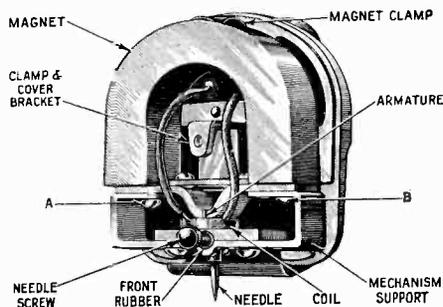

Figure 15—Pickup Nomenclature
In order to replace a defective coil or the hardened pivot rubbers (see Figure 15), it is necessary to proceed as follows:
- (d) Remove screws A and B, Figure 15, and then remove the mechanism assembly from the pole pieces.
the armature centered properly. The adjustment is made by loosening screws A and B (Figure 15), and sliding the mechanism slightly in relation to the pole pieces.